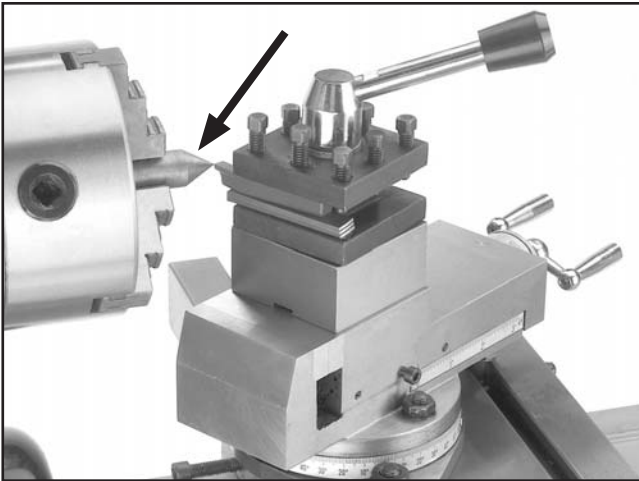

Figure 38. Finished dead center.
2. Make a dead center by turning a 60° point on a piece of scrap material (**Figure 38**).